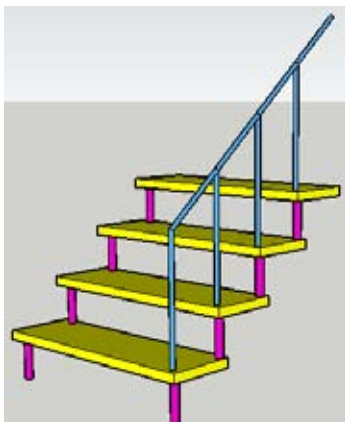

Figure 7-103
- The Follow Me face for the rail is a small circle, extruded along the two Follow Me lines. When the rail is completed, make it a component, and close the tread component (Figure 7-103).